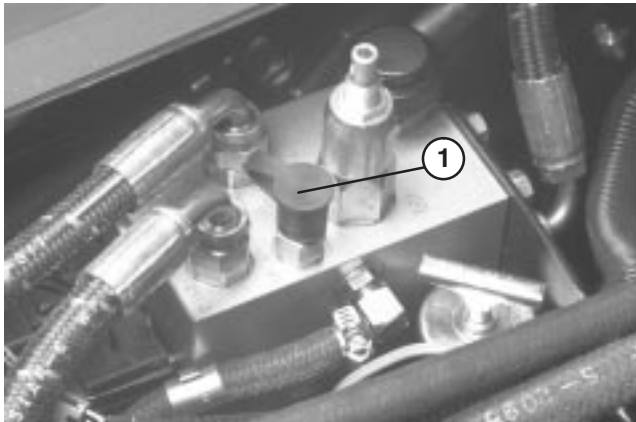

Figure 32
HYDRAULIC SYSTEM TEST PORT (Fig. 32)
1. Test Port #1 (Fig. 32) is used to adjust pressure in counterbalance circuit.